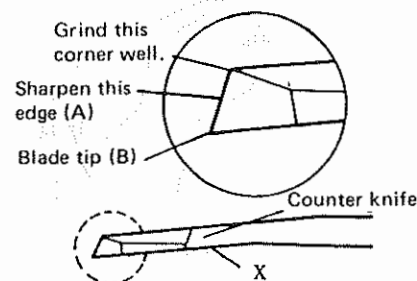

Fig. 43
- The sharpness of the thread trimmer is improved merely by sharpening "A" shown in Fig. 43 (Pay attention to the angle shown in Fig. 43).